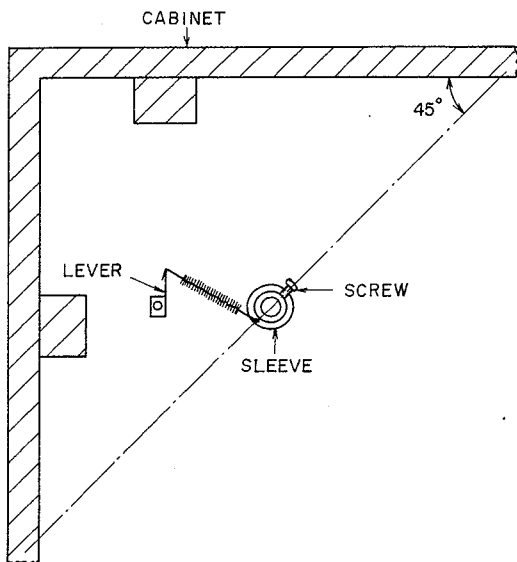

Fig. 10
(Refer to Fig. 10)
- 2) Set the sleeve, located between the PU Plate and the chassis, to approximately 45° position as shown in Fig. 10.